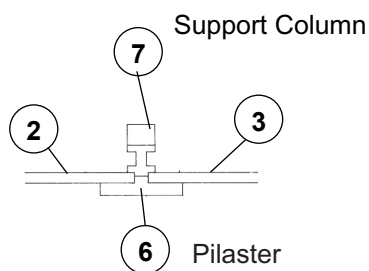

FIG. 2
4. This building is designed to be made longer by combining two or more kits. The side wall can be expanded by using the splice pilaster (6) between two wall (3) sections and gluing the support column (7) to the back of the walls - fig. 1. To accommodate the new wall size, the base must be modified. For splicing two buildings together, you must cut off one side of each base (to the outside of the narrow ridge underneath) as shown in fig. 2, and then glue the modified bases together. For more than two buildings, the middle base(s) must have both ends removed - fig. 3 - in addition to the end bases having one end removed, before gluing all together.